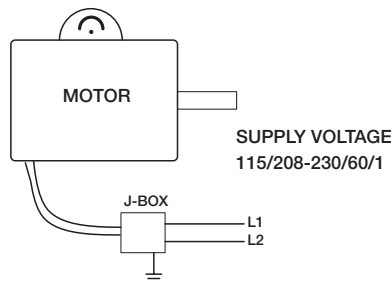

Figure 3 — Typical Wiring Diagram INDUSTRIAL WASHDOWN AIR CIRCULATOR HEADS
1. Connect power in accordance with the NEC and all local codes. Refer to Figure 3 for the wiring diagram.